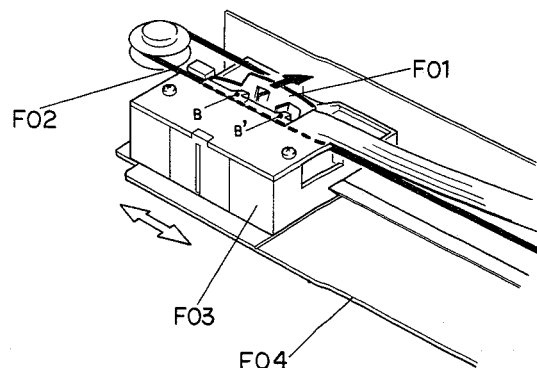

Fig. 5.1.10
- (1) Move F01 (Wire Stopper) backward with pliers (refer to Fig. 5.1.10).
- (3) Referring to Fig. 5.1.10, set F03 (Lamp Base Ass'y) to the left end, and position F03 so that the right edge corresponds to the groove on the F04 (Guide Plate).
- (4) Move F01 (Wire Stopper) forward with pliers.